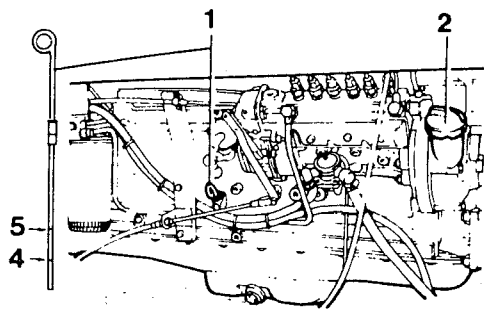

Fig 34a Engine
- 2 Check the oil level using the dipstick (1). The level should be at the upper mark (5 in Fig 34a). If necessary, replenish with more oil.
- 3 Refit the filler cap (2 in Fig 34a).